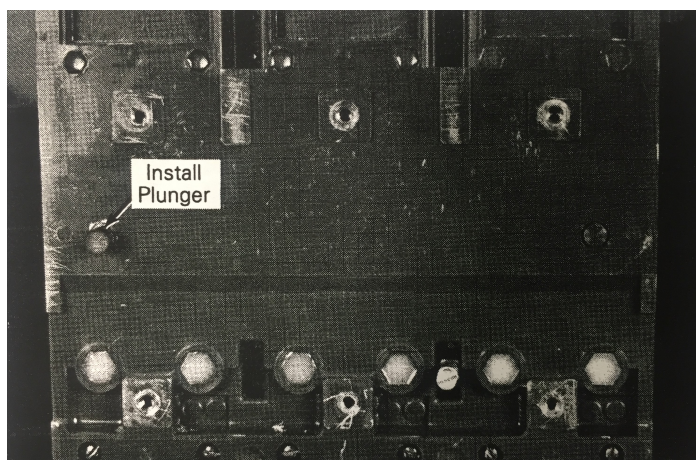

Figure 4. Interlock plunger Installed in the breaker ..
3. Install the interlock plunger in the hole made in step 2, as illustrated in Figure 4.